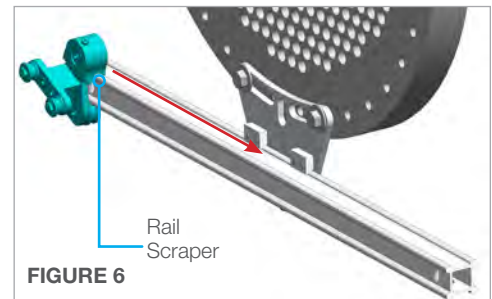

FIGURE 6
- Angle the **Idler Carriage** as shown to allow the Idler Carriage to engage with the lower rail properly. Rotate it back to the vertical position and slide it towards the lower Rail Clamp. (**Figure 6**)